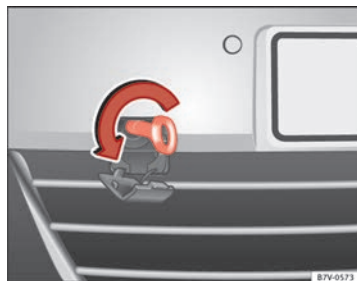

Fig. 220 On the right-hand side of the front bumper: Screw in the towline anchorage
The location for the removable towline anchorage is on the right-hand side of the front bumper ⇒ Fig. 220.
- Screw in the towline anchorage into its position **anticlockwise** as far as it will go ⇒ Fig. 220 ⇒ ①. Use a suitable tool to firmly tighten the towline anchorage in its location.